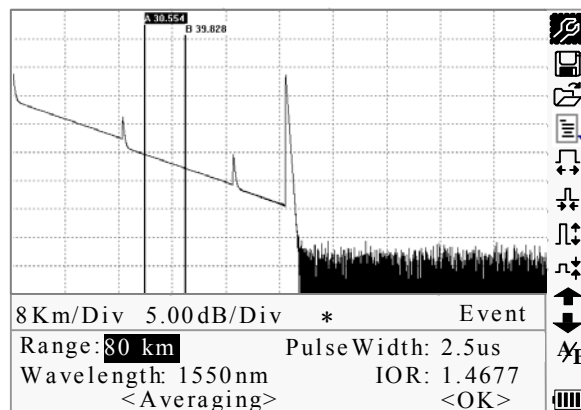

Figure 4-8. Upload Saved Traces
- use [◀] and [▶] to move the parameter to be changed(Figure 4-8), and the press [Enter].